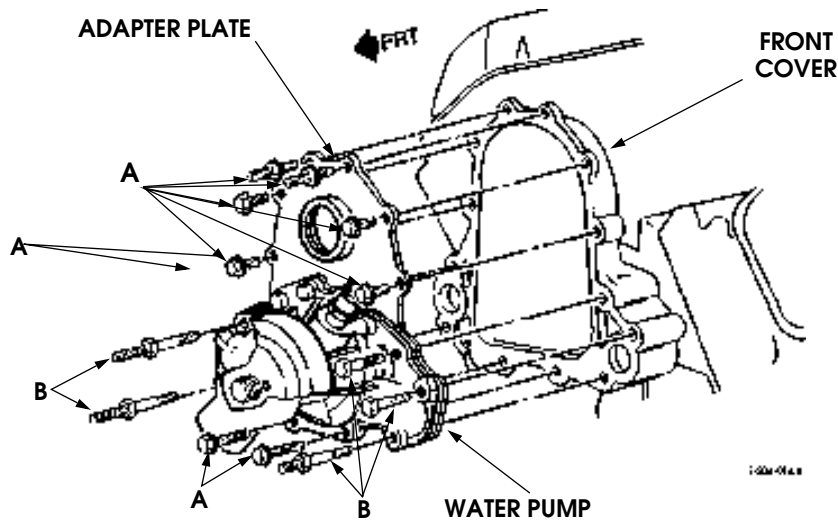

Figure 4-26: Water Pump and Adapter Plate Removal/Installation
8. Remove water pump and backing plate attaching bolts/studs and remove pump and plate as assembly (Figure 4-26).
4. Install adapter plate and water pump on front cover. Tighten all studs and short bolts marked A to 13-20 lb-ft (18-27 N•m). Tighten large studs and large bolt marked B to 25-37 lb-ft (34-50 N•m) (Figure 4-26).